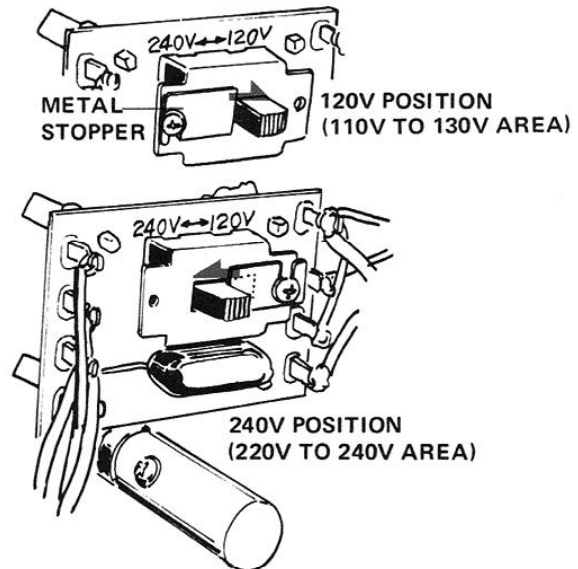

Fig. 2
2. Fig. 2 shows the location of the line voltage selector switch and metal stopper. Remove the screw, to free the metal stopper.